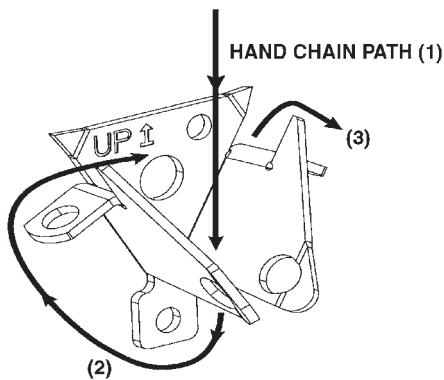

Figure 17
- Attach chain keeper to wall or door guide assembly. Instruct door users to wrap hand chain as shown in Figure 17.